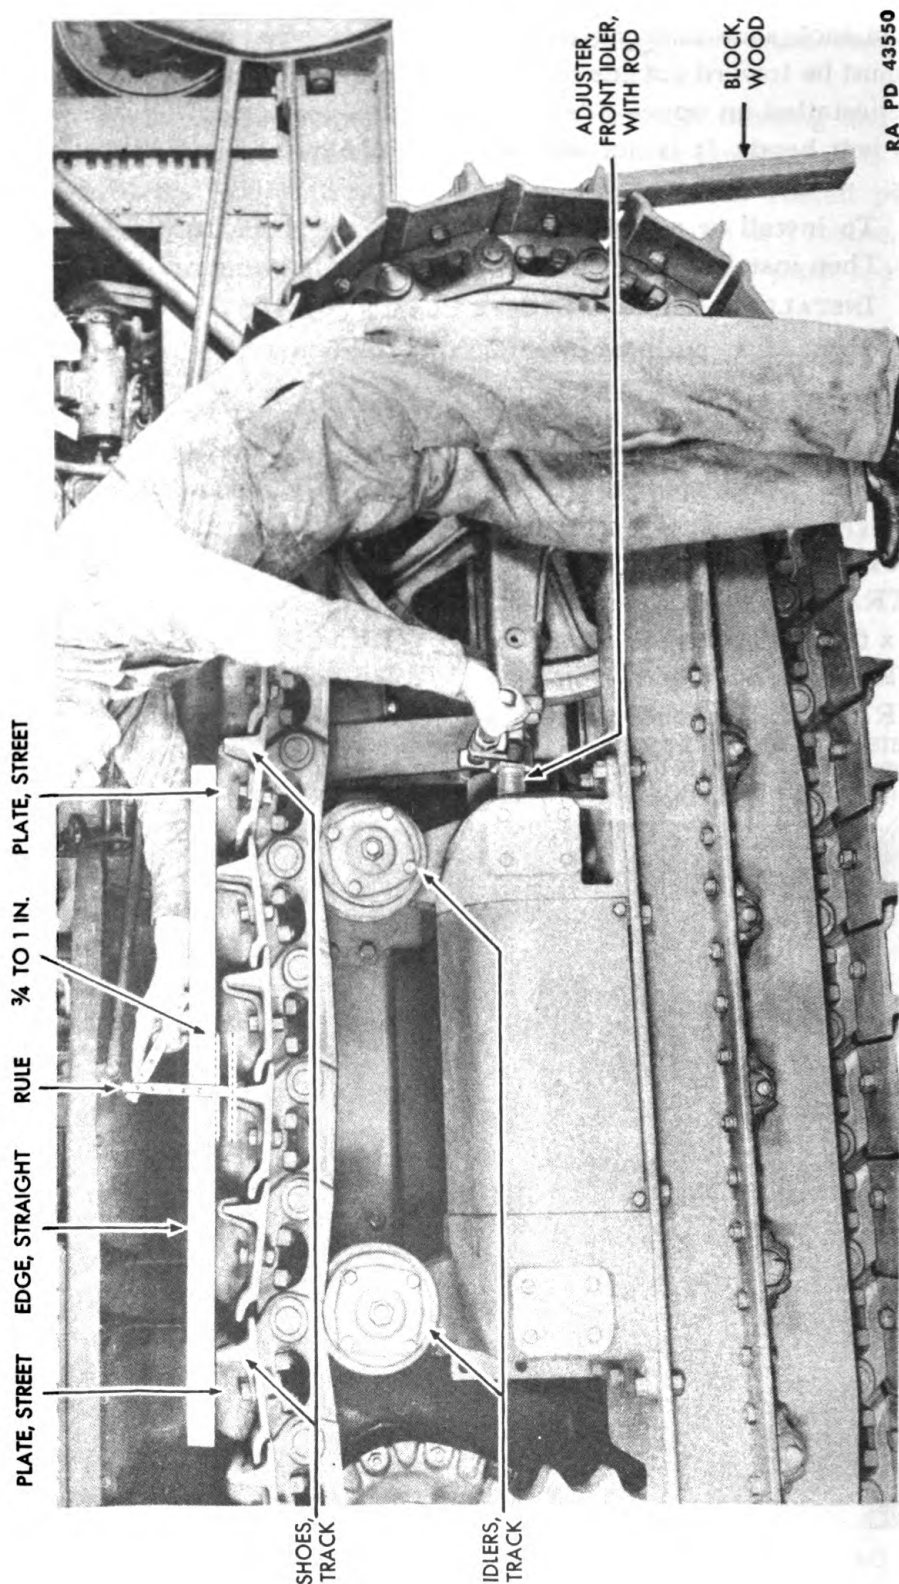

Figure 174 — Track Adjustment
(2) ADJUST TRACK TENSION (fig. 174).
(c) Place a wooden block about 1 foot high under the front track shoe lug. With the engine running, place tractor in low gear and engage clutch just enough so that sprocket drive tightens track along ground and on sprocket. Lock tractor brake, stop the engine and stand on top of track to pull it tight around front idler. All slack should now be in top part of track (fig. 174).